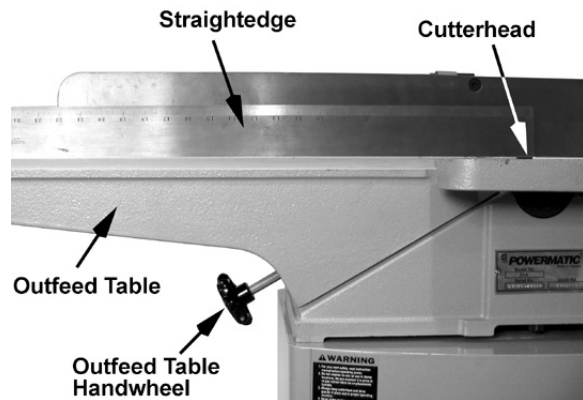
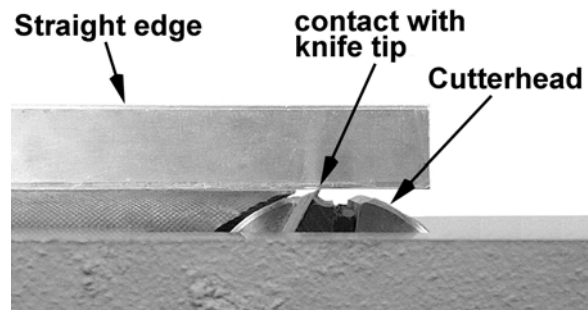

Figure 19
Figure 21
3. Place a straightedge upon the outfeed table and extend it over the cutterhead (Figures 19 and 21).
6. With the *outfeed table handwheel* (Figure 19) raise or lower the *outfeed table* until the *straight edge* contacts the *knife tip*, as shown in Figure 21. Using the drive belt or pulley, rock the cutterhead slightly to make sure the apex of the knife is just barely contacting the *straight edge*.